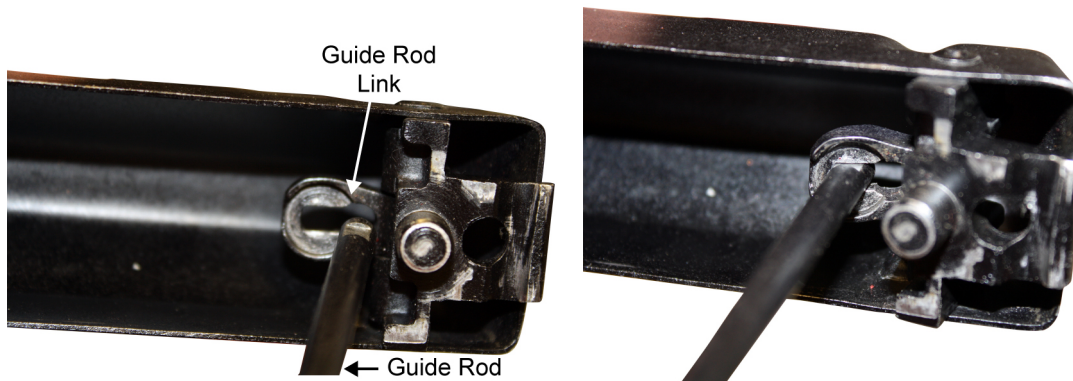

Figure 9. Insert the Guide Rod into the Guide Rod Link and Slide it into the Narrow Side of the Hole.
- To install the slotted end of the guide rod into the guide rod link, insert the guide rod into the round side of the hole in the guide rod link, ensure the slots of the guide rod are aligned with the narrow side of the hole in the guide rod link, and slide the end of the guide rod into the narrow side of the hole. Refer to Figure 9.